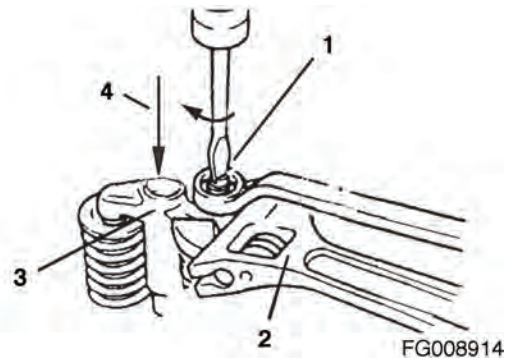
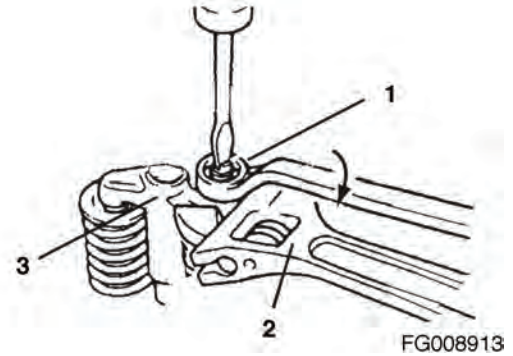
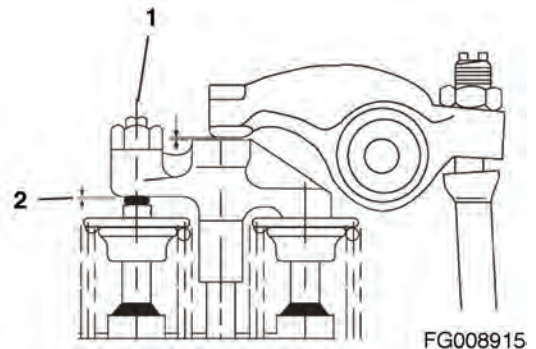

Figure 160
Figure 161
Figure 162
5. To assure the valve bridge contacts the rear valve, apply light, downward (4, Figure 160) finger pressure on the valve bridge (3, Figure 160), and loosen the valve bridge adjusting screw (1, Figure 160), until there is visible clearance (2, Figure 162) between the adjusting screw and the front valve.
6. To assure the valve bridge has equal contact with the front and rear valves, apply light downward (4, Figure 160) pressure on the valve bridge (3, Figure 160), adjust the valve bridge adjusting screw ((1, Figure 160), (1, Figure 162)) so there is zero "0" clearance (2, Figure 162) between the adjusting screw and the front valve.
7. Tighten the lock nut (1, Figure 161), while holding the valve bridge (3, Figure 161) with a wrench (2, Figure 161). Verify that the valve clearance (2, Figure 162) is zero "0".